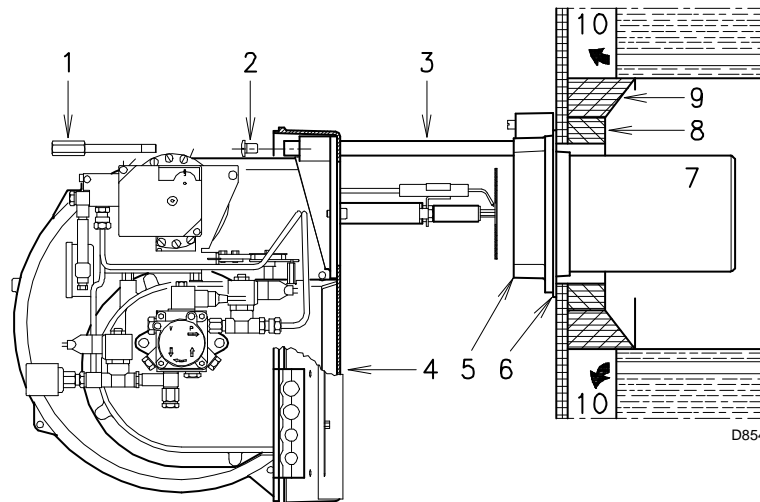

Fig. 8
The length of the blast tube 7)(Fig. 8) must be selected according to the indications provided by the manufacturer of the boiler, and in any case it must be greater than the thickness of the boiler door complete with its fettling.
For boilers with front flue passes 10)(Fig. 8) or flame inversion chambers, protective fettling in refractory material 8) must be inserted between the boiler fettling 9) and the blast tube 7).
Disassemble the blast tube 7)(Fig. 8) from the burner 4) by proceeding as follows:
- pull back the burner on its slide bars as shown in Fig. 8 at page 15;